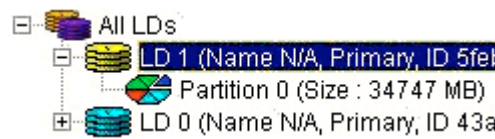

Figure 9-7: LD Partition 0
Step 6. Click on the LD (or LV) you would like to map. All the LD (LV) partitions should appear. If you wish to map the entire LD (or LV), the LD (or LV) should not have been partitioned and the only partition that will appear is Partition 0 (see *Figure 9-7*).